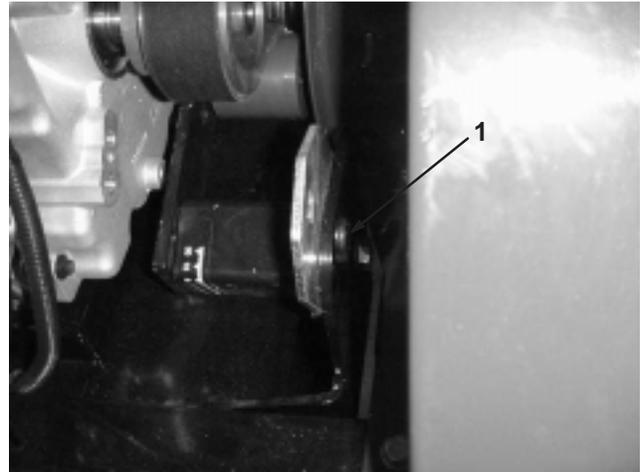

Figure 26
3. On back side of blower frame, loosen capscrew securing belt tensioner to frame (Fig. 26).